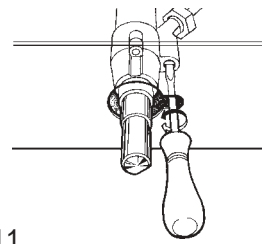

fig.11
- Remove the tap knob and turn the adjusting screw, situated inside of the tap stem (fig.11), using a screwdriver (loosening the screw increases the height of the flame, tightening decreases it).